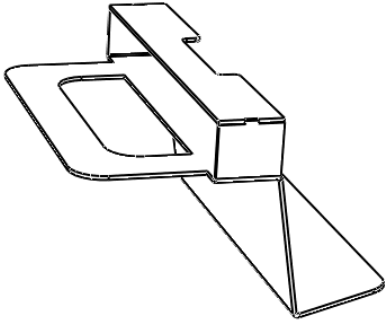
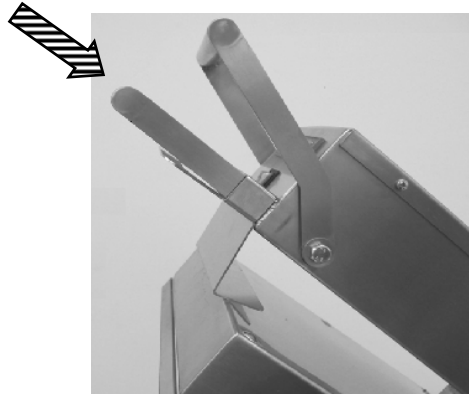

Fig. 23
Fig. 24
- Slide plate stabilizer (fig. 23) onto the bottom handle as shown in fig. 24.